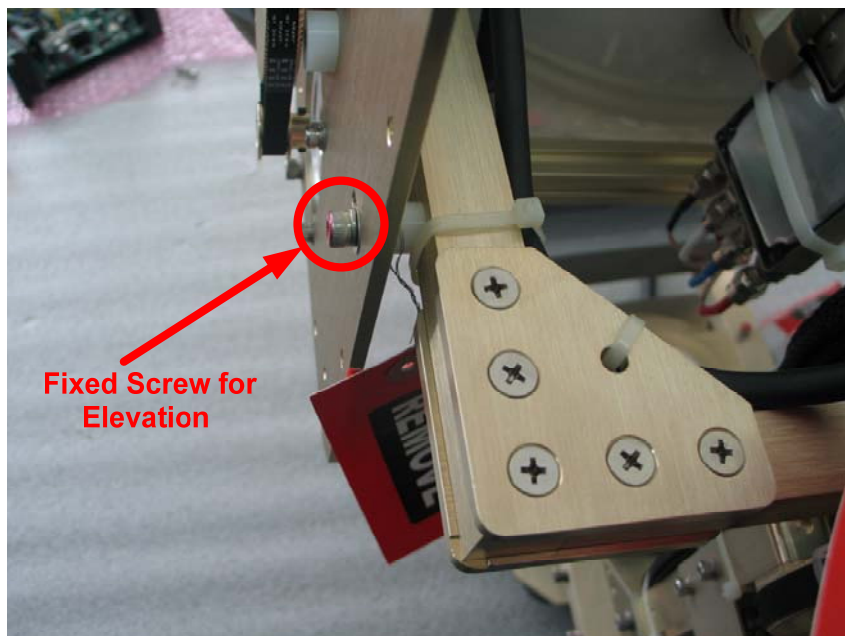

Figure 2-8 *Fixed Screw for Elevation*
3. Remove the jigs and wire ties holding the Antenna. Please refer to Figures 2-8 and 2-9, 2-10 below.